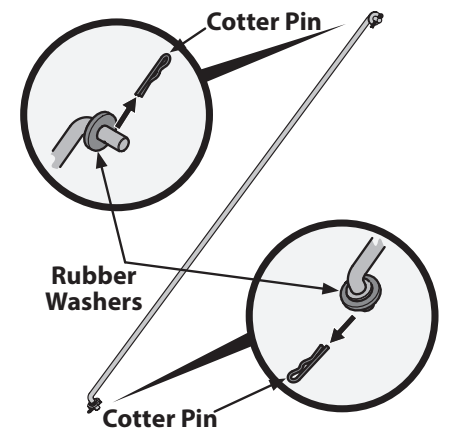

Figure 9
2. Remove the cotter pins from the control rod, leave the rubber washers on the control rod. See Figure 9.